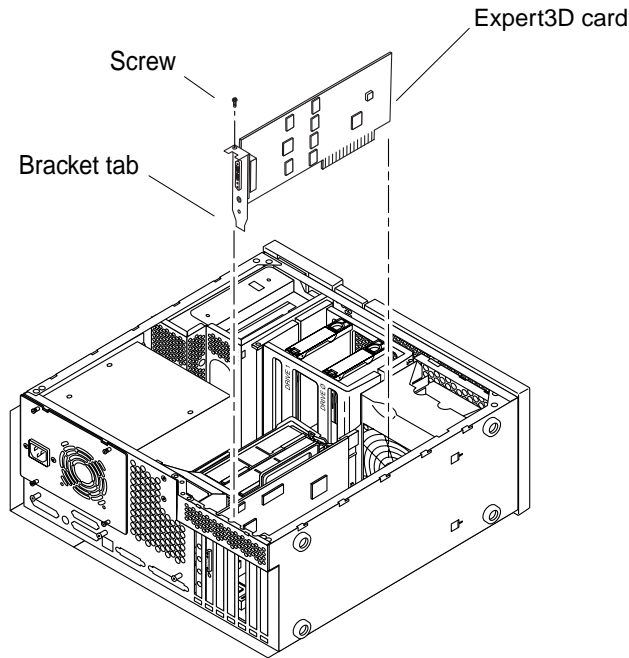

FIGURE 2-2 Installing Expert3D Graphics Card in an Ultra 60 System
- a. **Position the Expert3D card into the chassis (FIGURE 2-2).**